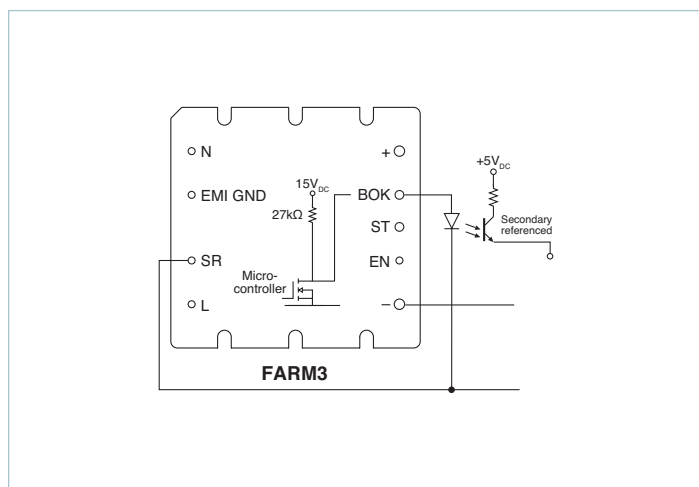

Figure 12 — Bus OK (BOK) isolated power status indicator
**Bus-OK (BOK) Pin:** (see Figure 12) The Bus-OK pin is intended to provide early-warning power fail information and is also referenced to the SR pin.